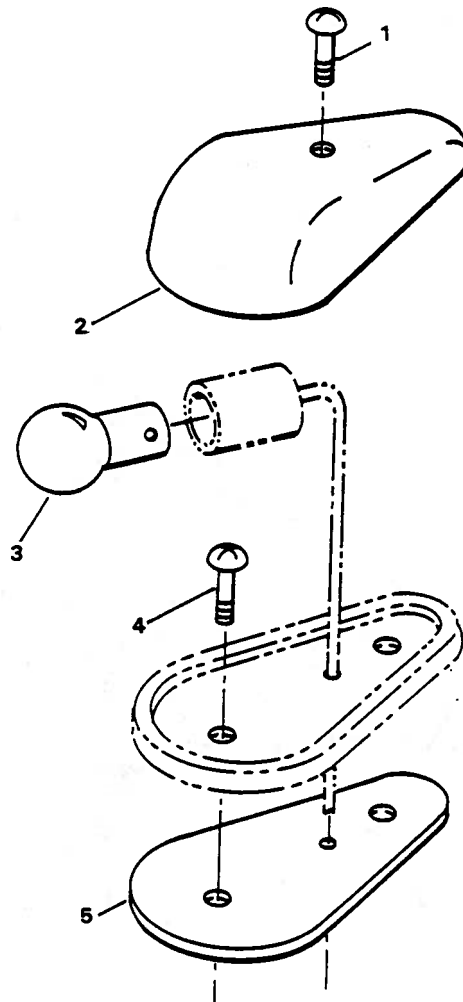

Figure 5-19. Cab Marker Light Assembly
5-28. DISASSEMBLY. (See figure 5-19.)
- b. Remove screw (1, figure 5-19) and lens (2).
- c. Remove screws (4).
- d. Remove base gasket (5) from base.
- e. Remove bulb (3).